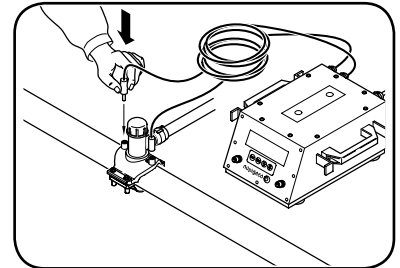

FIG.3
- 7 Connect the two cables of the electrofusion machine to the connectors of the tapping tee (see fig.3). Scan the bar code (see fig.6) with the bar code scanner or enter the welding parameters manually (see fig.5). **ALWAYS CHECK THE WELDING PARAMETERS!**